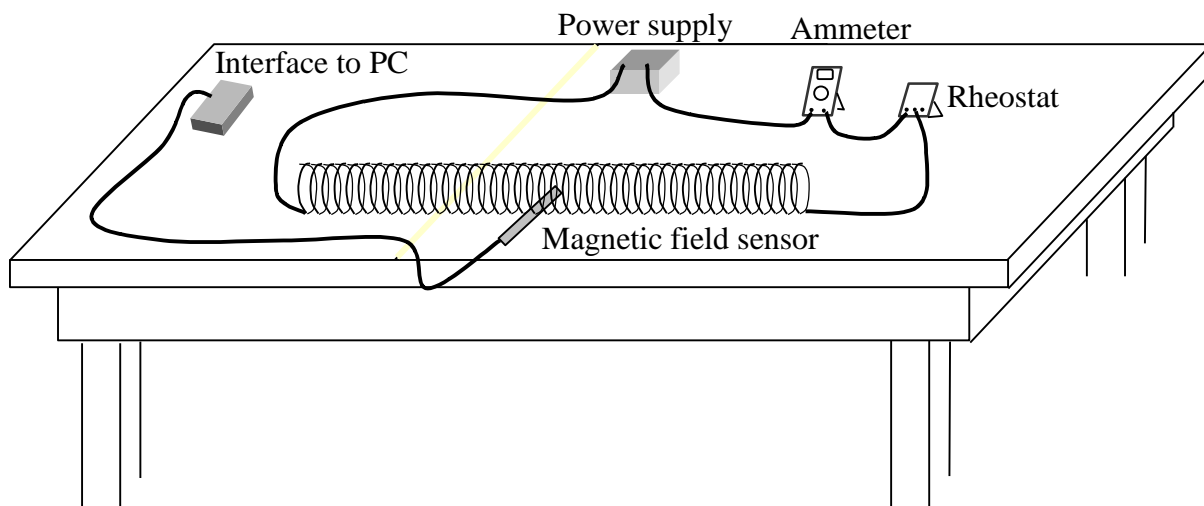

Fig 1
3. Connect the circuit as shown in Fig 1. Use the +6V DC of the power supply. Set the ammeter to 10 A scale. Make sure you have a way to turn on/off the current in the circuit.